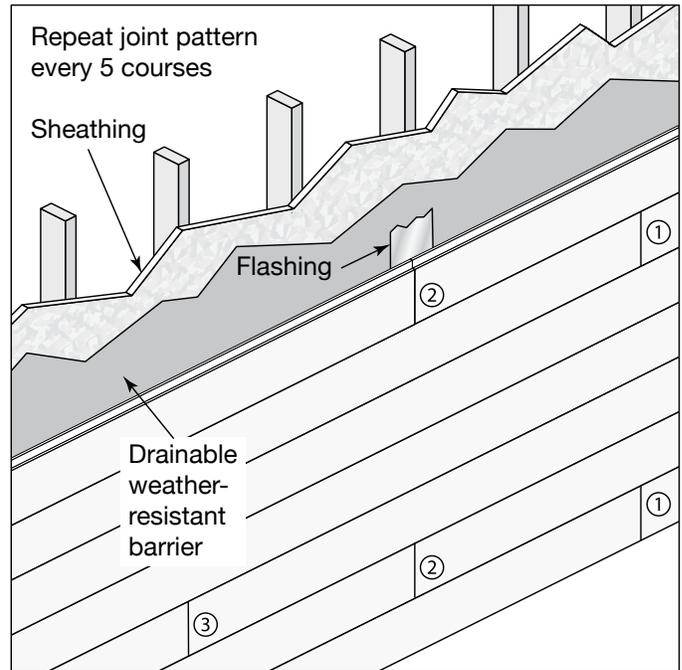

Fig. 5
- Always stagger your butt joints over stud locations (Fig. 5).